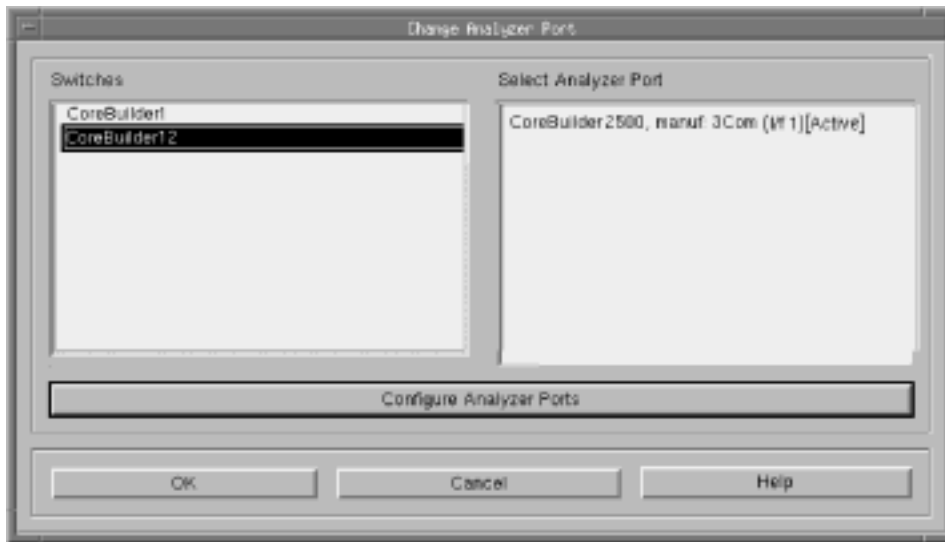

Figure 67. Change Analyzer Port Dialog Box
2. The Change Analyzer Port dialog box is displayed (Figure 67).